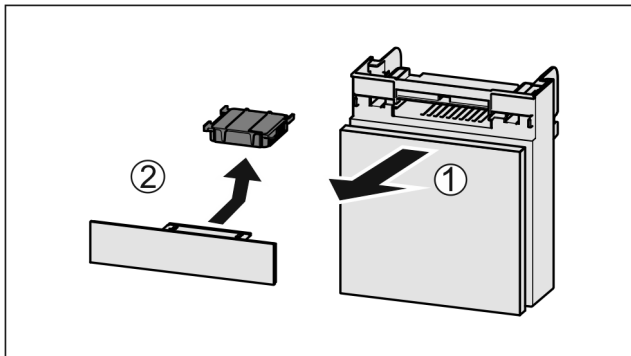

Fig. 55
- ▶ Pull out the compartment Fig. 55 (1).
- ▶ Remove the carbon filter Fig. 55 (2).